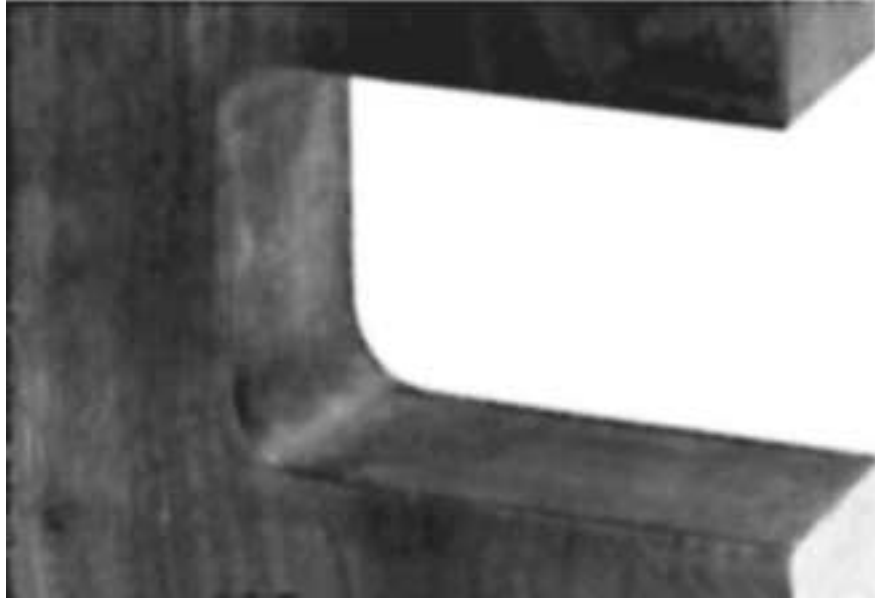

**Figure 13.38** Cut door with template.
1. Cut the door using the template as a guide (Fig. 13.38 ).